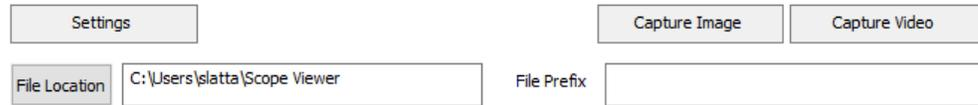

Figure 4
1. Select the *Capture Video* Button. (Fig 4).